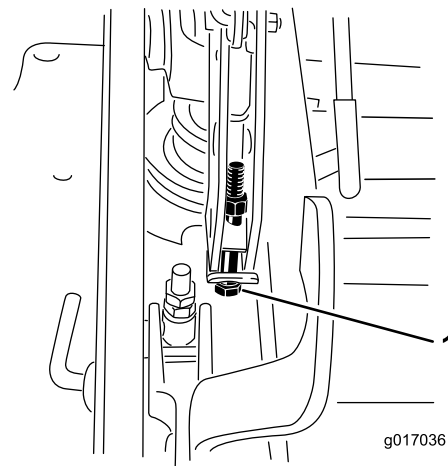

Figure 91
12. If the deck is too low, tighten the single point adjustment bolt by rotating it clockwise. If the deck is too high, loosen the single point adjustment bolt by rotating it counterclockwise (Figure 91).